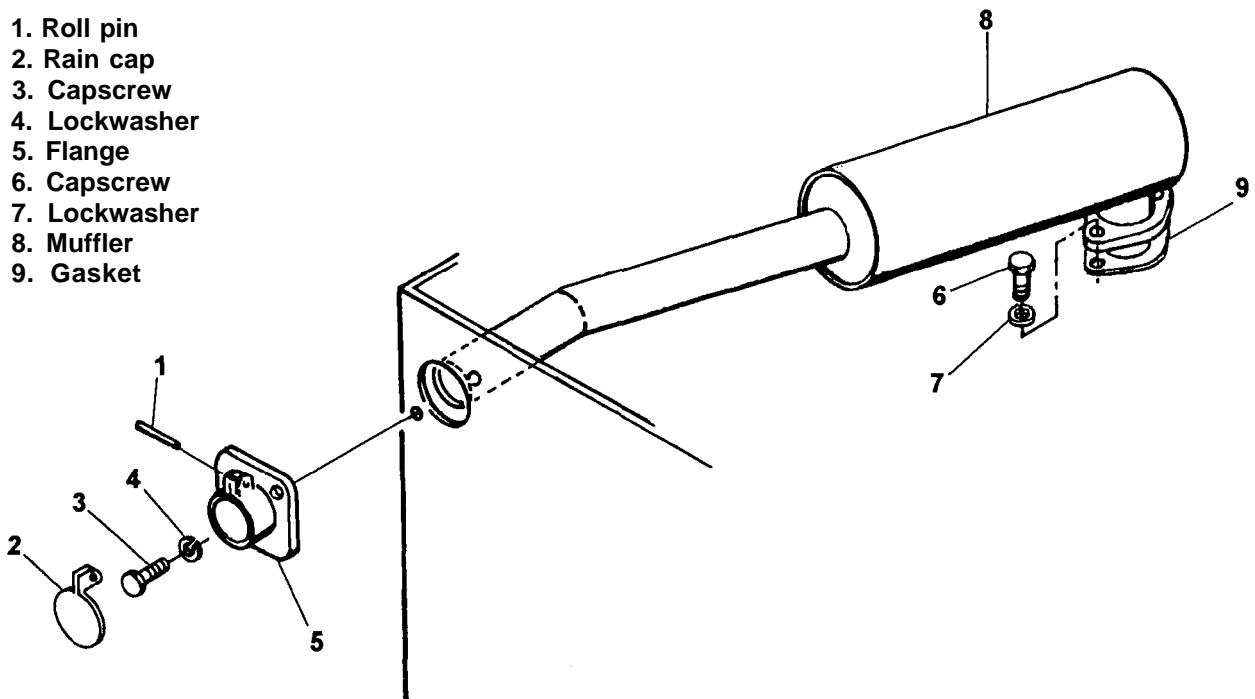

Figure 4-33. Muffler, Exploded View
- (1) Remove roll pin (1, Figure 4-33) to remove rain cap (2).
- (2) Remove capscrews (3), lockwashers (4) to remove flange (5).
- (3) Remove capscrews (6) and lockwashers (7) to remove muffler (8) and gasket (9). Discard gasket.
- (1) Install new gasket (9, Figure 4-33), muffler (8), lockwasher (7), and capscrews (6).
- (2) Install flange (5), lockwashers (4), and capscrews (3).
- (3) install rain cap (2) and roll pin (1).